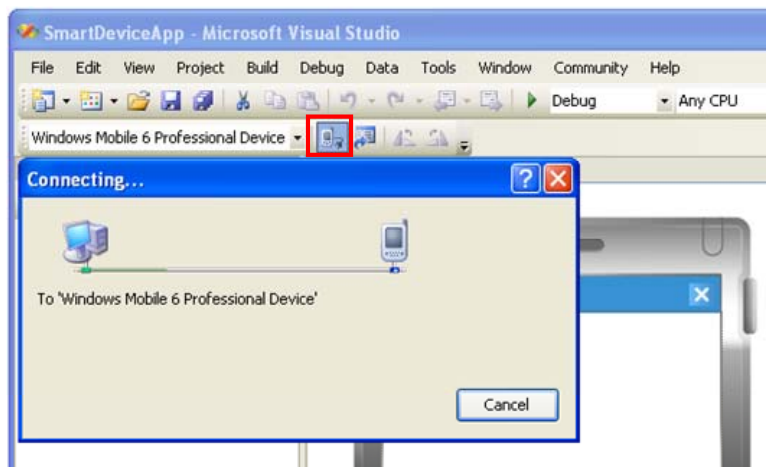

Figure 6.2
4. Click the button shown in the red box below (see Figure 6.2) to make sure that Visual Studio 2005 has recognized the connection established with the IT-300 via ActiveSync. If it does not, start up ActiveSync again to establish connection.